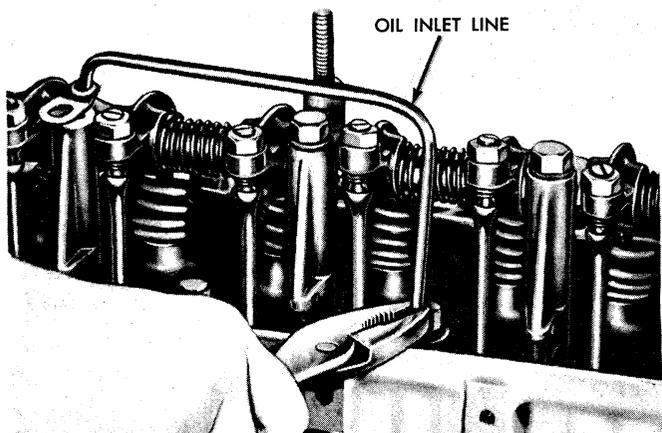

Figure 9—Removing Rocker Arm Oil Inlet Line
9. Remove the rocker arm oil inlet line from the cylinder block as shown in Figure 9. Lift the oil inlet and outlet lines from the rocker arm supports. Lift the rocker arm assembly from the cylinder head. Lift the push rods out of the cylinder head, and place in a numbered rack so that they may be reinstalled in their respective position.